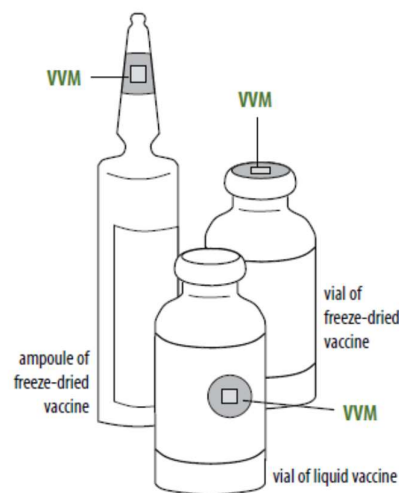

Figure 1.10.1 1:Locations of VVMs on ampoules or vials11
- Before opening a vial, the status of the VVM must be checked to see whether the vaccine has been damaged by heat. Figure 1.10.1.1 shows the location of VVMs on ampoules and vials.